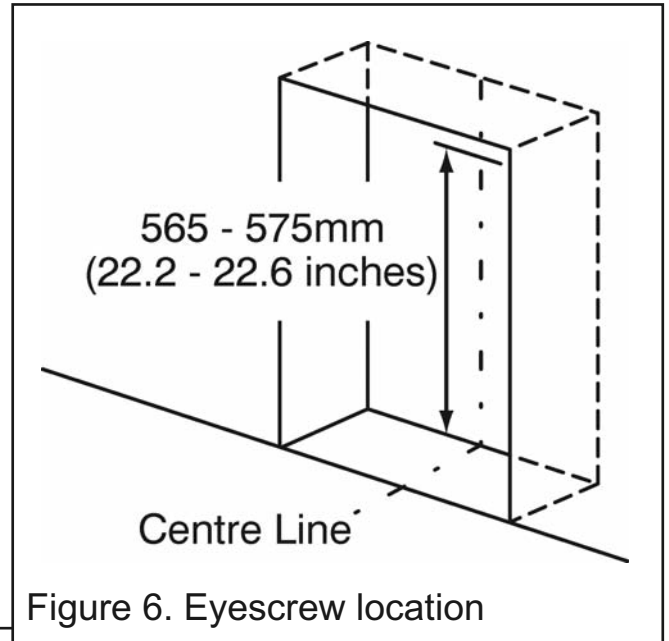

Figure 6. Eyescrew location
2. Mark the eyescrew position on the centre line at the back of the fireplace opening and at a height of 565-575mm (See figure 6).